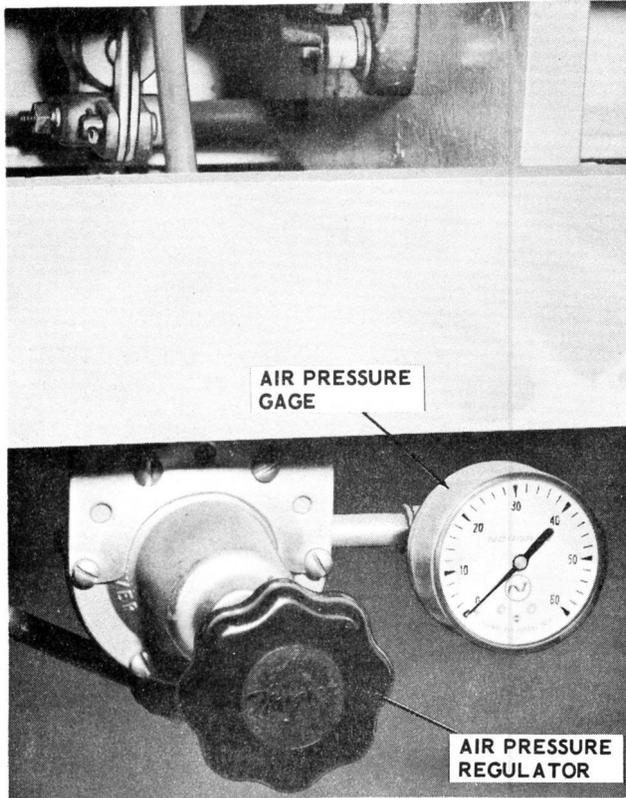

Figure 4-4. Air System Control
e. Apply air pressure to air jet splitter blade by turning air pressure regulator (Figure 4-4) until approximately 2 psi is read on air pressure gage. The air pressure should be regulated so that only the minimum pressure required is used. After the proper air pressure is established for the pouch being run, it should be noted, and the air pressure regulator set accordingly each time.